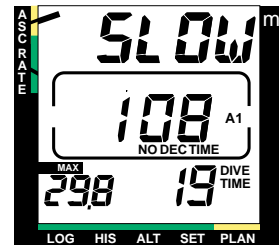

Fig.3.13 ASCENT RATE INDICATOR
- the maximum allowed ascent rate, 10 m/min [33 ft/min], is exceeded. A blinking SLOW warning will alternate with the depth display (Fig. 3.13). LUX S model gives also an audible alarm; continuous beep.